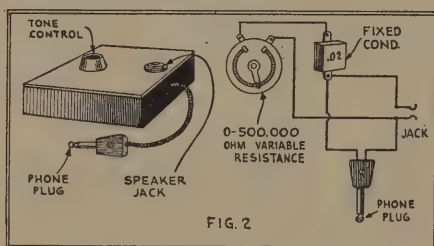

FIG. 2
This is best shown with reference to Fig. 2. Here we have the field coil *F* that gives us the steady electromagnetic field *N-S* across the slotted pole tips. This field coil of course is energized as is the usual practice with dynamic speakers, either from the 6-volt "A" battery or from rectified alternating current. In this speaker, only five watts of electric energy are required to energize the field.
**T**HIS may be made as illustrated in Fig. 2. The pictorial schematic indicates a fixed condenser of .02 mfd. capacity in series with a variable resistance. This resistance must be noiseless.